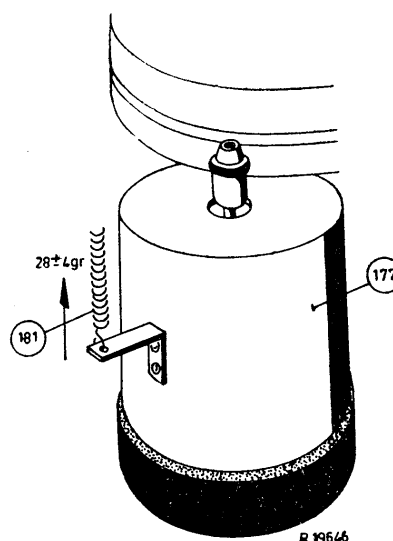

FIG. 3
- (b) Pressure of motor pulley against flywheel. The tension of the spring 181 which maintains the motor pulley in contact with the flywheel is measured at the spring anchoring point on the motor and should be 28 ± 4 grammes (see Fig. 3).